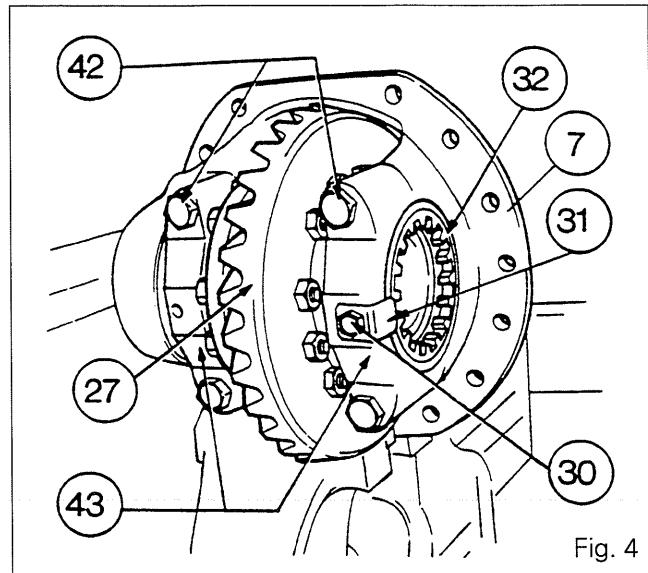
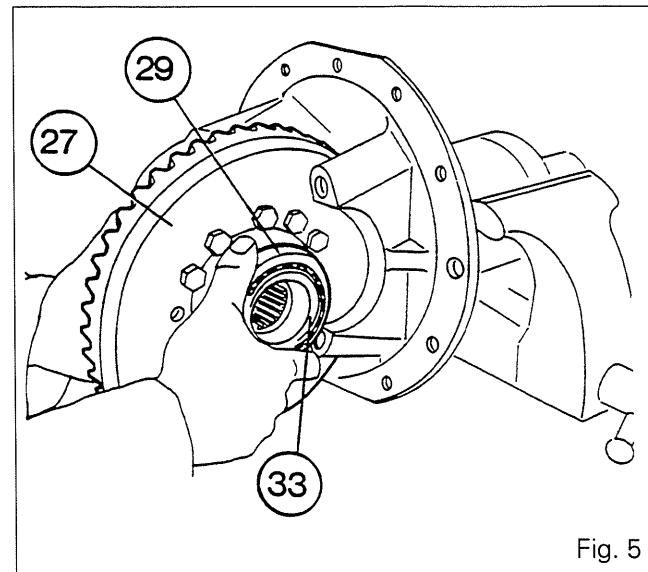
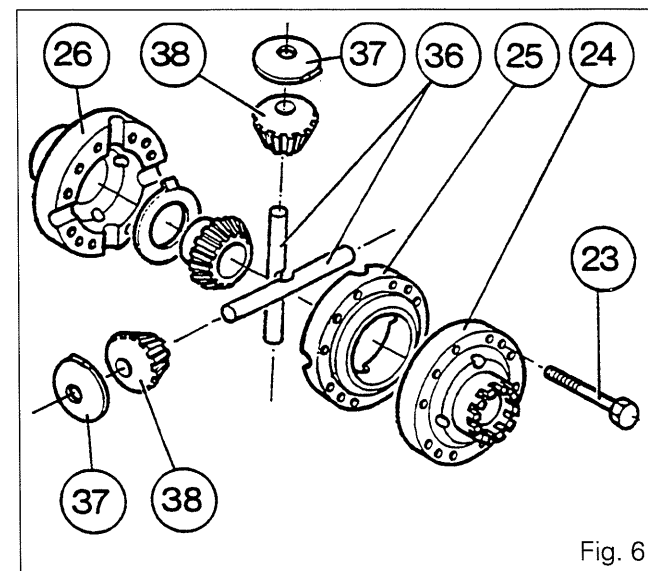
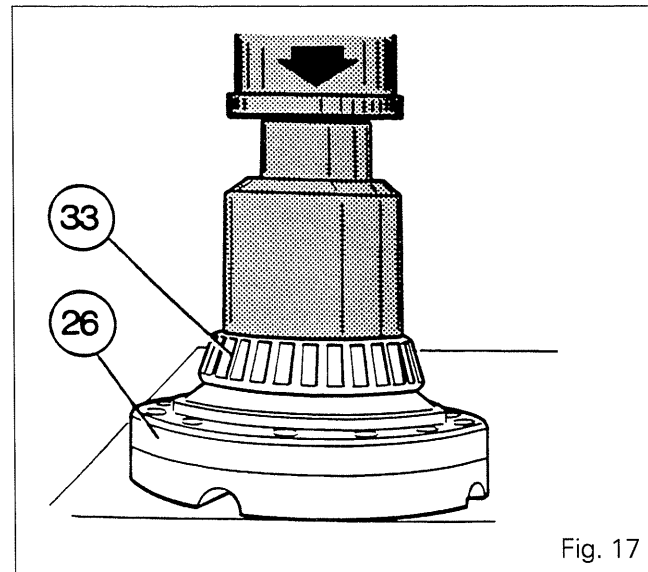

Fig. 4
Fig. 5
Fig. 6
Fig. 17
11. Place the casing (7) in a soft-jawed vice (Fig. 4).
12. Remove the bolt (30) and its retainer (31) (Fig. 4).
13. Remove the splined nut (32) using the special locally-manufactured spanner (see Section M).
14. Remove the four bolts (42), and remove the bearing halves (43) (Fig. 4).
**Note: Carefully remove the bearing half on the lock control side, with spring (17) compressed; the washer (21) should remain in the casing (7).**
15. Remove the complete differential assembly with the bearing cones (33) and cups (29) (Fig. 5). Separate the cups from the cones. Remove the shim or shims (22).
16. If necessary, extract the two bearing cones (33).
17. Place the differential assembly in a soft-jawed vice. Remove the nuts (28). Take out the bolts (23).
**Note: Prior to disassembly, mark the position of the housing halves (25) and (26) and of the cover (24) so they can be correctly paired when refitting.**
18. Separate the housing halves (25), (26) and the cover (24).
19. Remove the sun gear (11) and washer (35).
20. Separate the two pins (36), the planetary pinions (38) and the spherical washers (37) (Fig. 6).
56. Remove the thrust washer (16) on the sliding dog tooth coupler (18), and then fit the assembly in the piston (14). Fit the lug washer (12) and position the retaining ring (13) in the groove on the coupler.
57. In the casing without seals, install the piston (14) with the coupler (18).
**Note: The dowel (34) is force-fitted in the piston. Check that the piston and the dowel slide freely in the casing. When this check has been carried out, remove the piston with the coupler.**
58. Fit new O-rings (15) and (19). Position the piston with the coupler and then insert it by striking it around the edge with a plastic mallet.
59. Position the spring (17) and the washer (20), with the shoulder of the washer facing the spring. Tighten the assembly using tool MF471 until the washer (21) slides freely in the groove on the housing.
61. If the bearing cone (33) was removed, fit it on the housing half (26) using a press or a suitable fixture (Fig. 17).
62. Fit the other bearing cone (33) on the cover (24), if it was removed.
63. Assemble the housing half (25) in the cover (24) (with the coupler teeth) in accordance with the markings made before disassembly.
64. Position the washer (35) on the planetary pinion (11), and place the assembly in the housing half (25), engaging the lug on the washer in one of the holes in the housing half.
65. Place the four sun gears (38) and the four spherical washers (37) on the two pins (36). Then position the assemblies in the housing half (25), engaging the lugs on the washers (37) in the holes in the housing half (25) (Fig. 6).